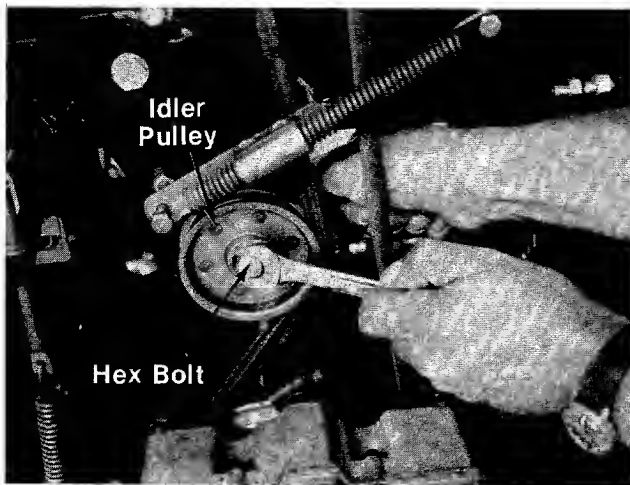

FIGURE 30.
4. Remove the bolt, lock washer and nut which hold the idler pulley to the idler bracket. See figure 30.